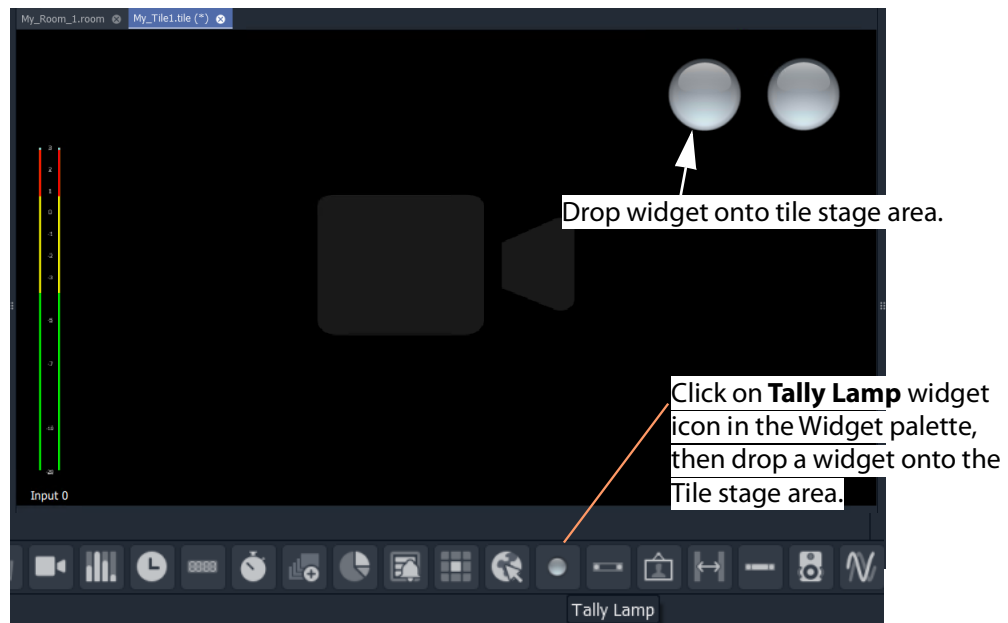

Fig. 15-20: Added Tally Lamp Widget(s)
- 1 Click on the **Tally Lamp** icon in the **Widget Palette** and drop on a **Tally Lamp** widget. repeat for a second one if required. See Figure 15-20.